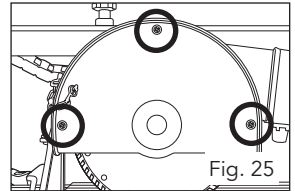

Fig. 25
2. Unscrew the three screws on the safety hood (8) and remove it from its position (Fig. 25).